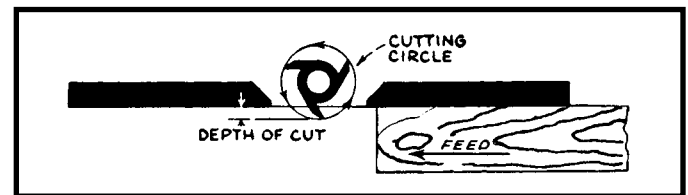

Fig. 24
1. For average work, where a portion of the original edge of the work is not touched by the cutter, both the front and rear fences are in a straight line (Fig. 24).